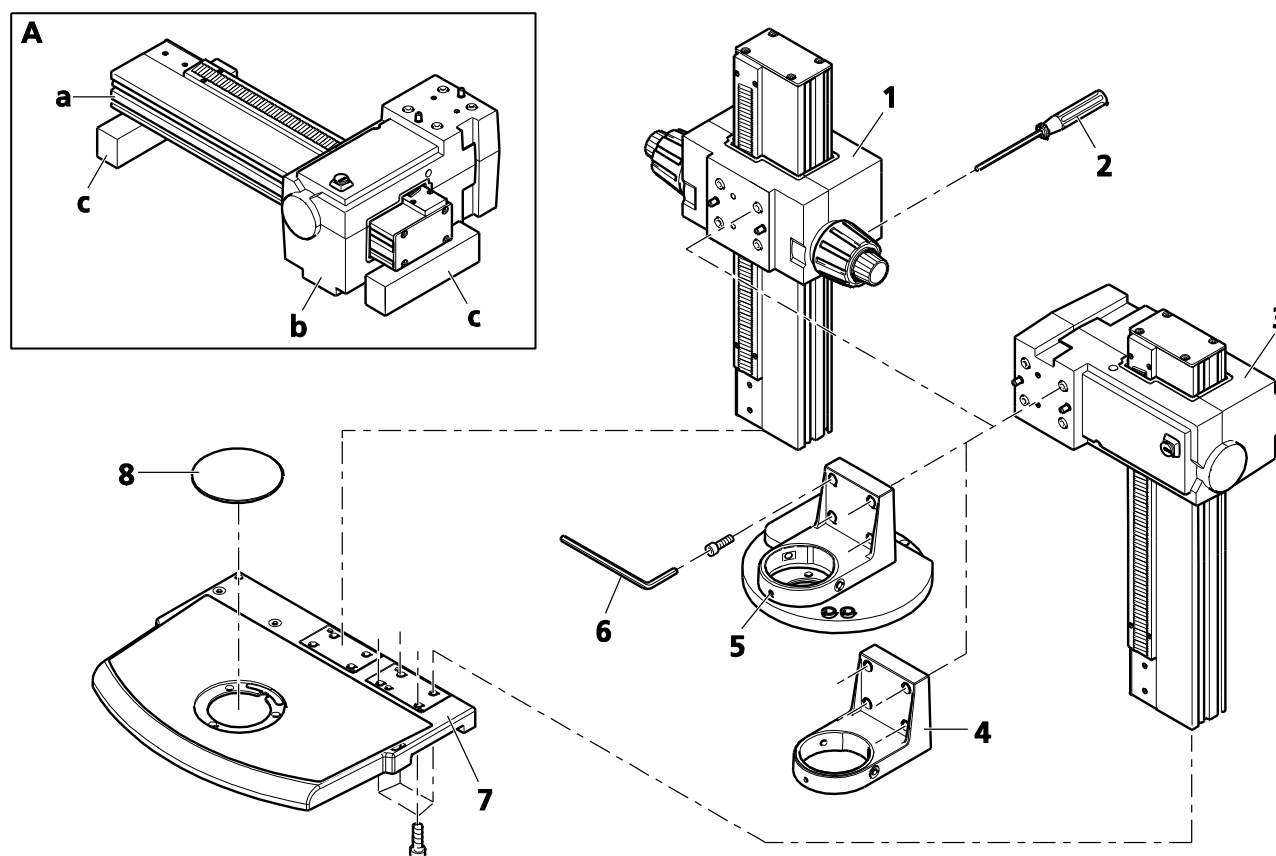

Fig. 6 Setting up the stand
To avoid any damage to the motorized focusing drive (Fig. 6/A), put it down only on the **back** of the column (Fig. 6/a) using sufficiently high supporting blocks (Fig. 6/c) (do **not** put it onto the rack side). The focusing unit (Fig. 6/b) of the focusing drive must not be used as support. Do not lift or carry the focusing drive by holding it at the focusing unit (Fig. 6/b)! Avoid heavy shocks to the focusing drive.
- Attach the column of the *motorized focusing drives* (Fig. 6/3) to the **right** mounting surface of the stand base (Fig. 6/7) or the column of the *manual focusing drive* (Fig. 6/1) to the **left** mounting surface and let the two locating screws click into place.
- Screw on the column tightly by screwing four Allen screws (SW 8) through the stand base (Fig. 6/7).
- Set up stand base (Fig. 6/7) with screwed on column.
- Put carrier (Fig. 6/4) or objective nosepiece (Fig. 6/5) onto the focusing drive letting the two locating screws click into place and keeping hold of the respective unit until the first screw has been tightened.
Mount the carrier (Fig. 6/4) rotated by 180° if you want to examine higher samples.
- Screw down all four Allen screws (SW 5). Use the long leg of the offset Allen key (Fig. 6/6) to screw the screws in, and the short leg to fasten them hand-tight.
- Insert 120 mm B/W plastic plate (Fig. 6/8); press on its rear edge to remove it again.
- Insert the supplied ball-headed screwdriver with SW 3 mm (Fig. 6/2) in one of the bores that are radially arranged on the torque-adjusting ring.